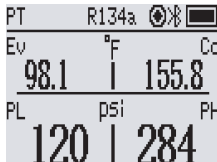

Figure 8 Data record icon
4.Start recording : Click to Recording , the recording icon on the device lights up and starts to flash (Figure 8).
① The device can record up to 3000 pieces of data.